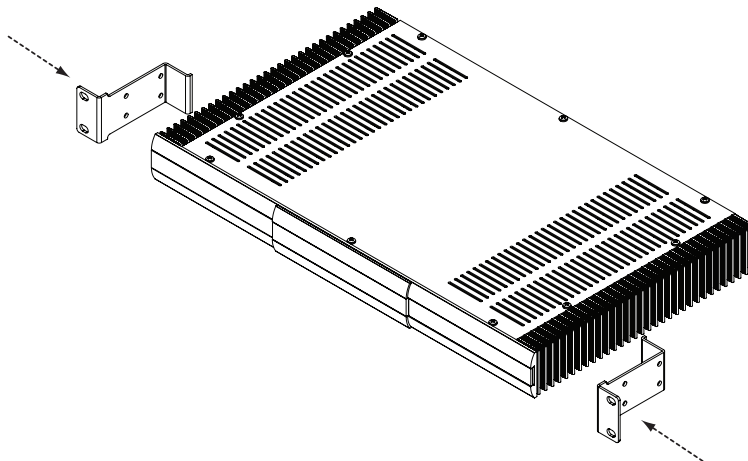

Figure B-1
1. Slide the rack mount kit onto the A6 chassis from the front as shown in *Figure B-1*.